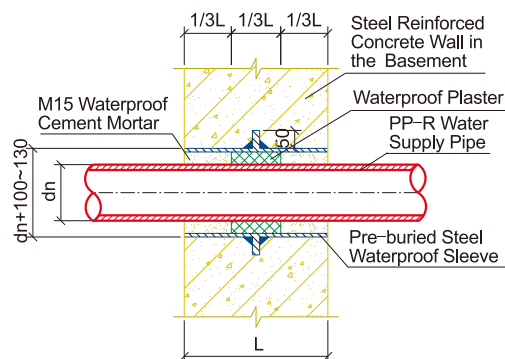

Fig.10 Unit: mm
- 3.3** Pre-bury the PVC-U sleeve when the pipe crosses brick wall or steel reinforced concrete wall. The construction details have been showed in figure 10.